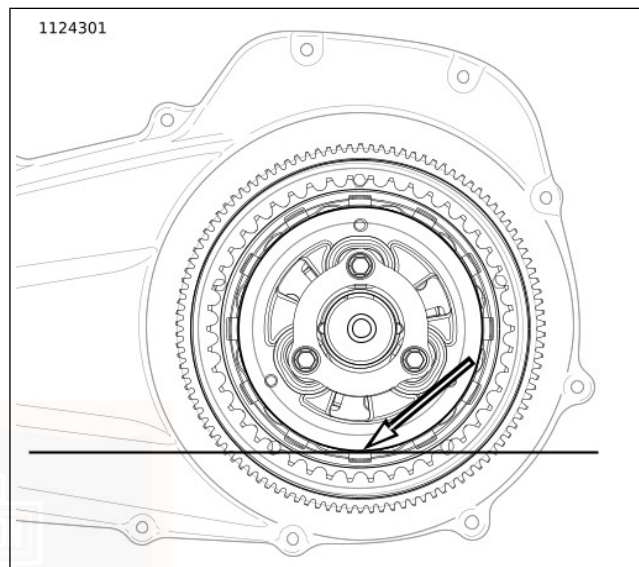

Figure 54. Primary Lubricant Level
- b. See Figure 54. Proper level is approximately at bottom of pressure plate OD.